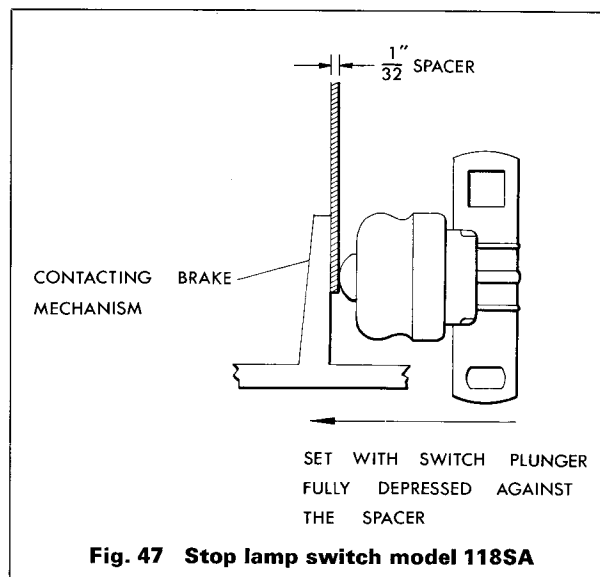

Fig. 47 Stop lamp switch model 118SA
- (ii) With the brake in the fully off position (brake lever against front stop), insert a $\frac{1}{32}$ " (0.793 mm) spacer between the contacting brake mechanism and the switch plunger. Adjust the switch position so that the plunger is fully depressed (see Fig. 47).